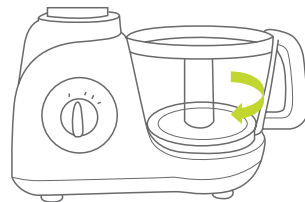

Fig. 2
2. Drop the processing bowl onto the base assembly by rotating the bowl clockwise until you hear a click ensure the all two interlocks on the bowl engage with the base unit. (Fig. 2)